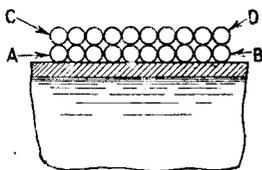

Fig. 1. To explain the principle of variometers.
**S**UPPOSE we have a two-layer coil such as that shown in Fig. 1. Let us consider the turns are very thin, so that we may assume the mean diameter of the winding A B is the same as that of C D. Then, since the number of turns in each winding is the same, and the lengths are also the same, the inductance of winding A B is exactly equal to that of winding C D.